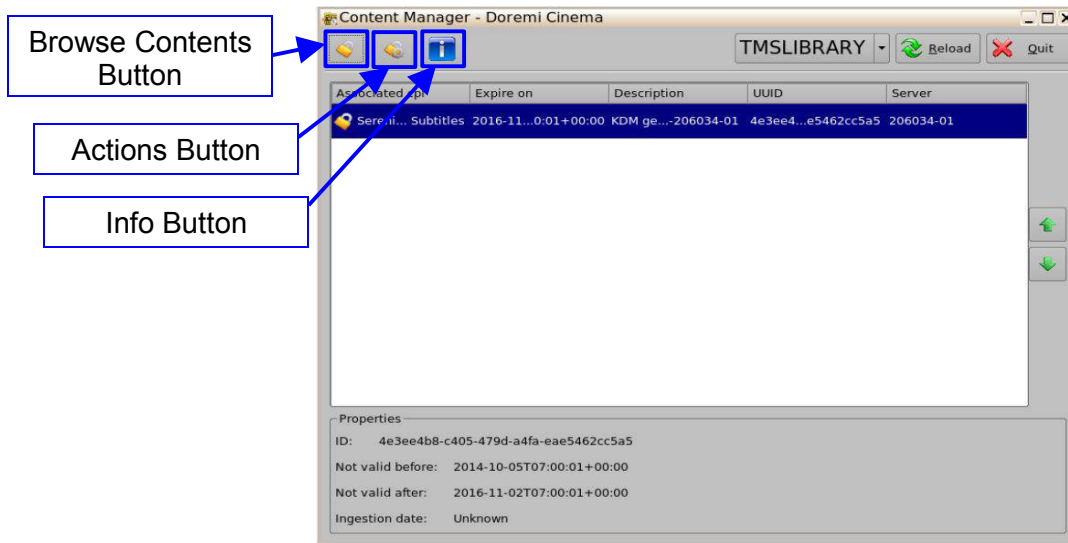

Figure 113: Content Manager – KDM Window
- **Browse Contents Button:** Allows the user to go back to the home page or switch through CPL's, KDMS's, SPL's, and License windows (Figure 113).
- **Actions Button:** Provides the user with the option of performing an Integrity Check. The user will also be able to delete a selected item (Figure 113).
- **Information Button:** Provides the user with the ability to obtain more information concerning the selected item including the properties, content, validity, and Trusted Device List (TDL) (Figure 113).